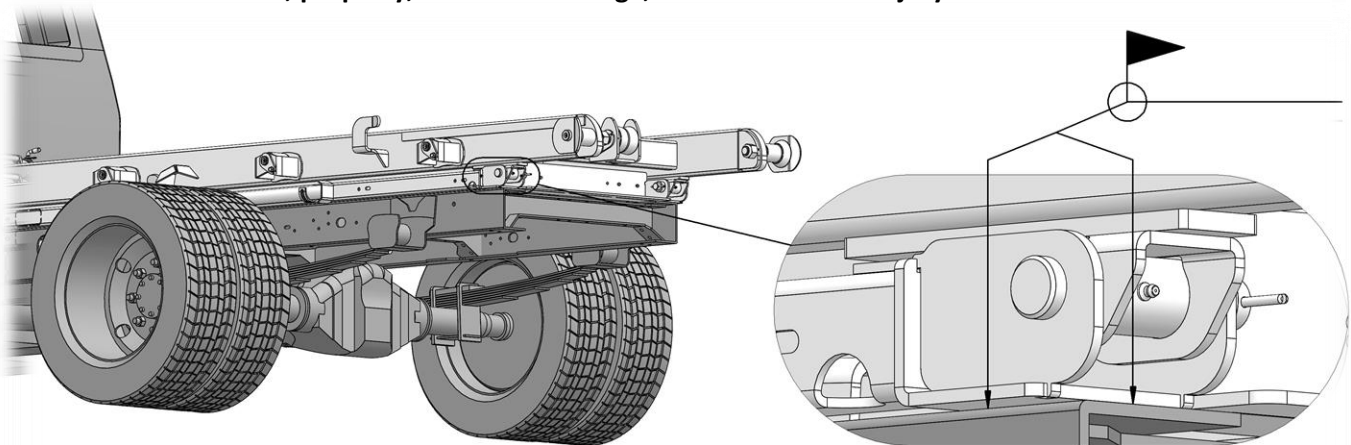

Figure 11-A: RHA Weld
Step 10 - If *Rear Hinge Angle* was bolted, Swap Hogg frame installation is complete. If *Rear Hinge Angle* was tack welded, finish welding rear hinge angle to chassis, see *Fig. 11-A*. **Ensure all gasoline lines, tanks, fittings, and electrical components are protected from damage, heat and sparks. Failure to protect fuel system may result in gasoline being ignited, which may result in unit, property, or vehicle damage, as well as serious injury or death.**